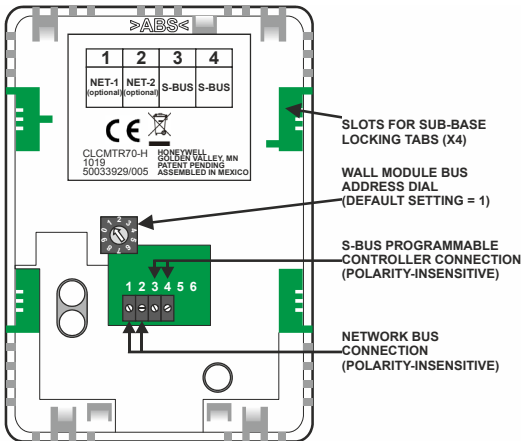

Fig. 1. LYNX wall module components (rear view)
Attach the wires from the LYNX controller and the bus to the appropriate wall module terminals, as indicated in Fig. 1.
Wire the terminal block shown in Fig. 1 as follows:
4. Review and verify the terminal connection wiring illustrated in Fig. 1.
Fig. 1 shows the location of the terminal block and other features on the CLCMTR7x and CLCMTR7x-H wall modules.
For BACnet communication, the building’s BACnet wires connect to the two terminals (NET-1 and NET-2). See Fig. 1. A BACnet bus port is accessible at the bottom of the wall module by removing the jack plug.
The BACnet Bus, LonWORKS Bus, and S-BUS (see Fig. 1) are insensitive to polarity, minimizing installation errors due to mis-wiring. The recommended wire size for the BACnet Bus, LonWORKS Bus, and S-BUS is Level IV, 22 AWG (0.33 sq. mm) plenum or non-plenum rated, unshielded, twisted pair, solid conductor wire.